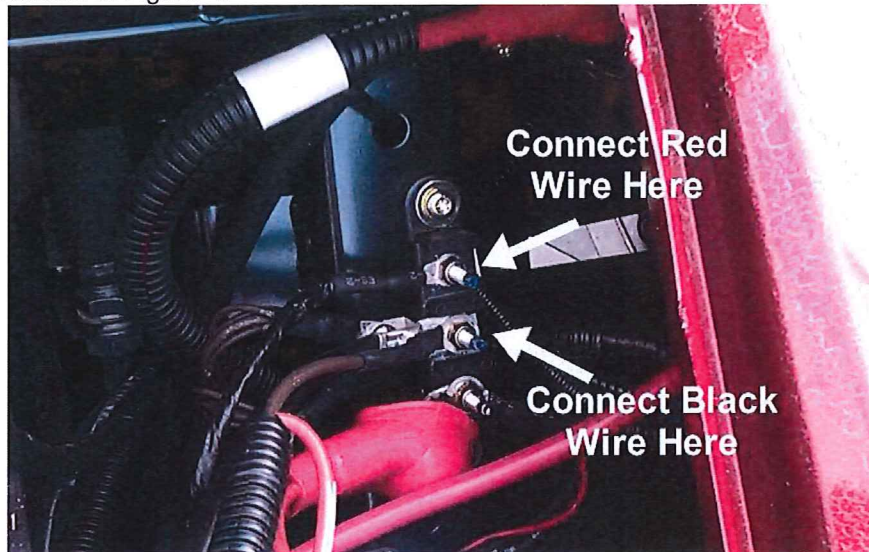

Figure 4
23. Run the Wiring Loom through one of the drilled holes in the underside of the dash panel up to the power connection block as shown in Figure 4.
24. Connect the red and black wires as shown in Figure 4.